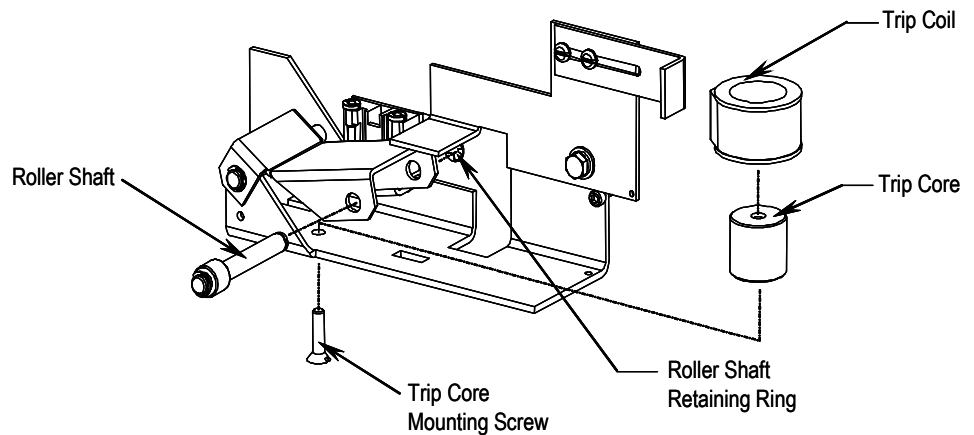

Figure 4.21 – Removal of Trip Coil
5. Remove the roller shaft retaining ring on the right-hand side, and slide the roller shaft out to the left. Remove the trip core mounting screw as shown in Figure 4.21 and remove the coil and core (earlier version contactors with four latch mounting bolts do not have a trip core mounting screw).